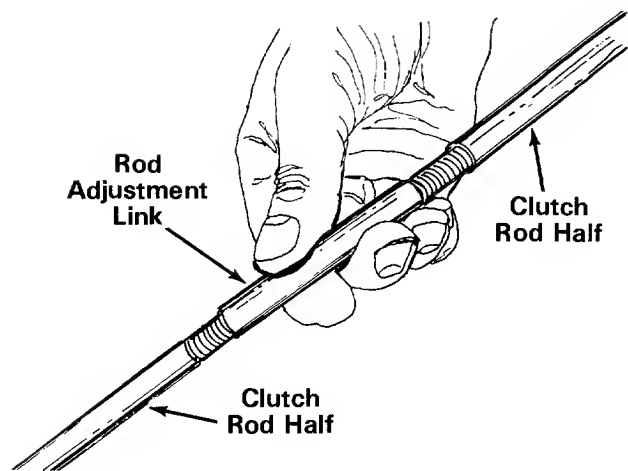

FIGURE 10
4. Thread rod adjustment link onto the upper clutch rod half, using about half of the threads. See figure 10.
5. Thread the lower clutch rod half into the bottom of the rod adjustment link. See figure 10.
If belt slips when engagement handle is in the engaged position, lengthen the clutch rod by turning the rod adjustment link. Refer to figure 10.